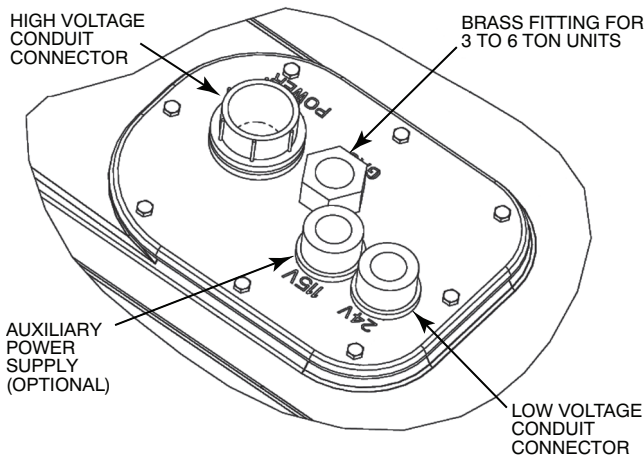

Fig. 22 — Thru-Base Connection Fittings
allows the high-voltage power wires to pass through the basepan. See Fig. 22.
3. Place the gasket over the embossed area in the basepan, aligning the holes in the gasket to the holes in the basepan. See Fig. 22.